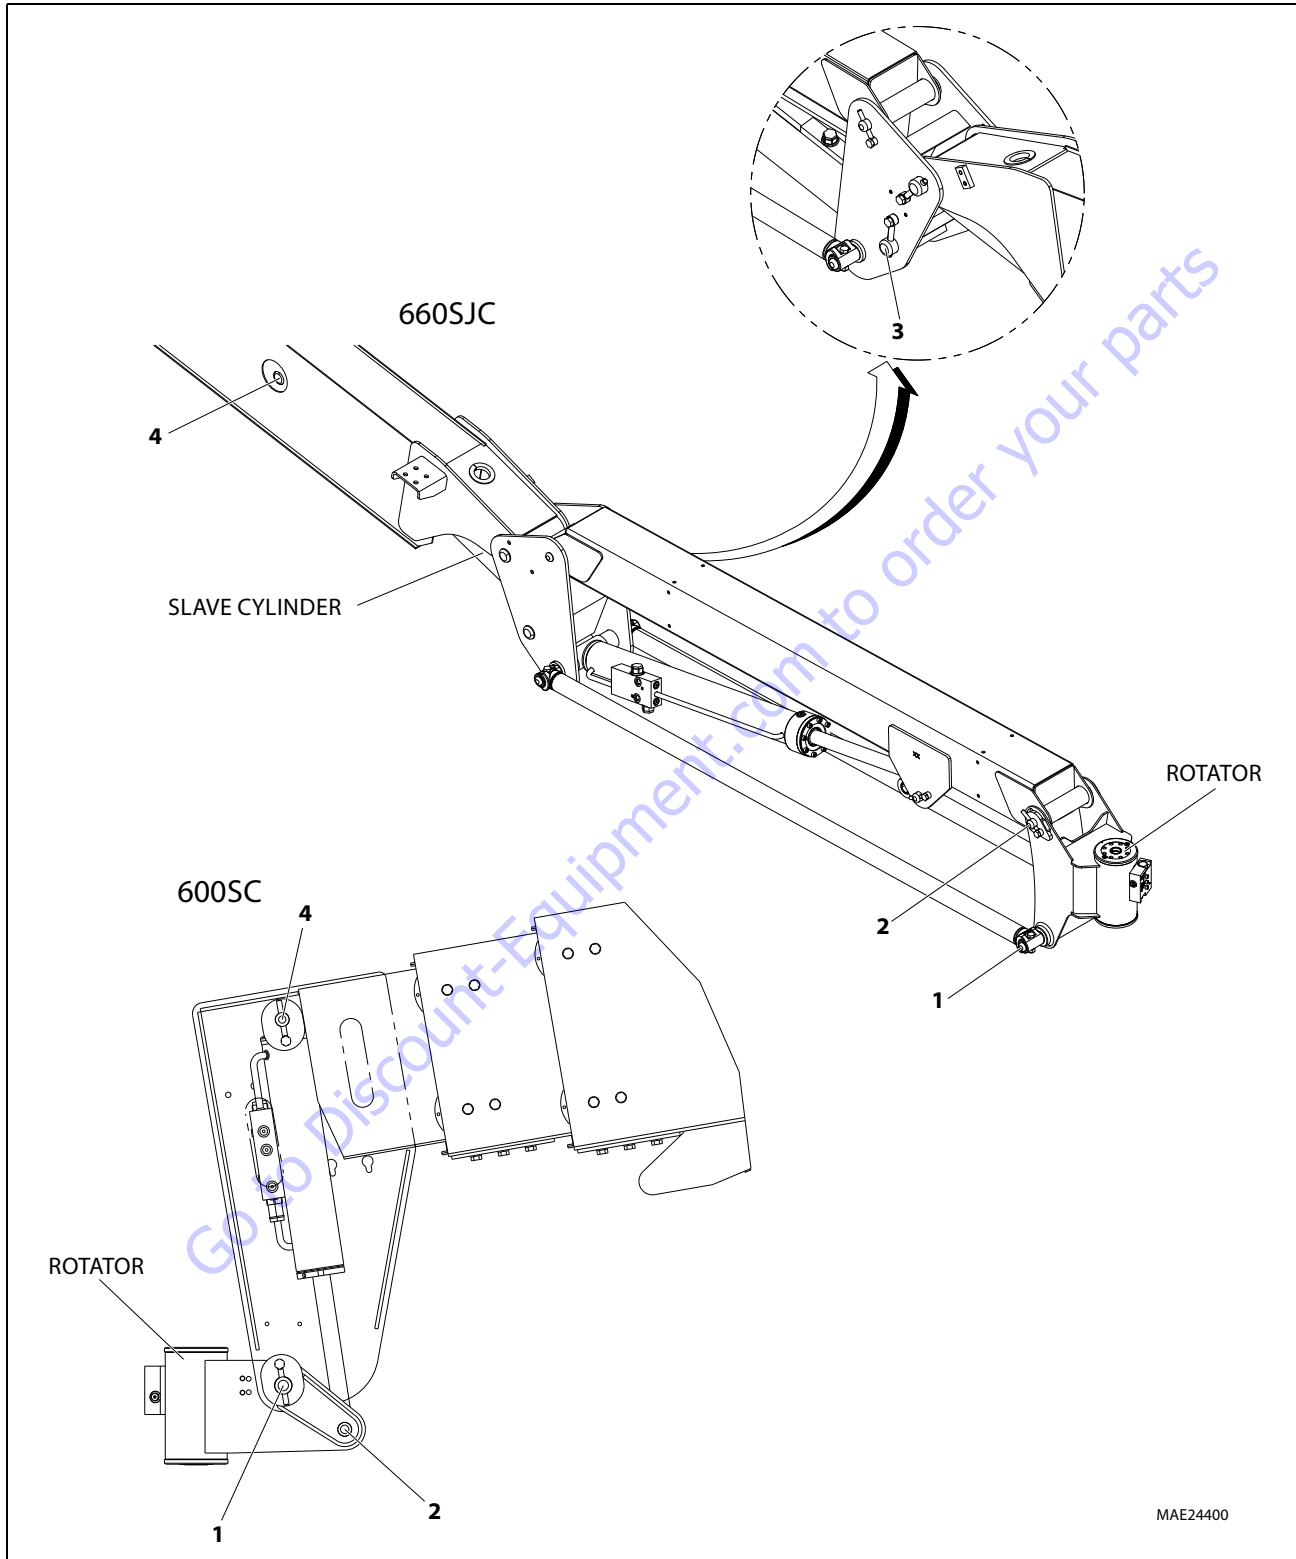

Figure 4-2. Removal of Components - Rotator and Slave Cylinder
**NOTE:** Refer Figure 4-2., Removal of Components - Rotator and Slave Cylinder.